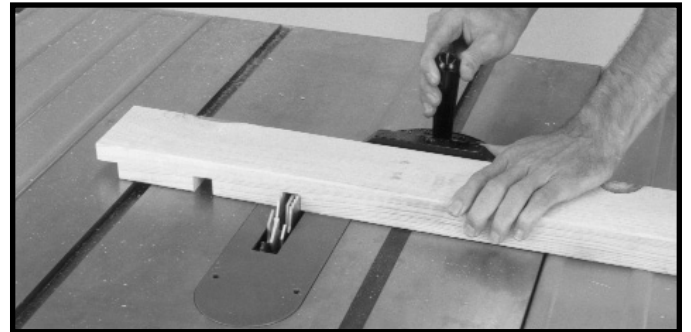

Fig. 58
3. Fig. 58, shows a typical dado operation using the miter gage as a guide.